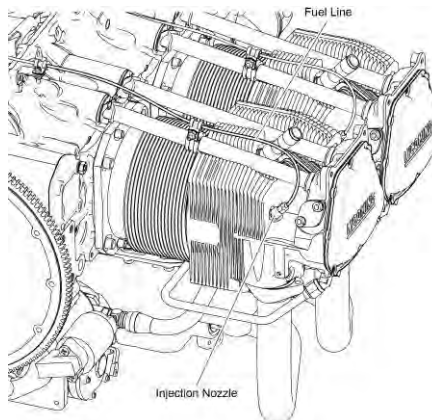

Figure 7
- (1) Disconnect the fuel line from the injection nozzle (Figure 7).
- (2) Remove the injection nozzle from the engine cylinder.
- (1) Lightly lubricate the injection nozzle threads with engine oil mixture.
- (2) Install the injection nozzle (Figure 7) on the engine cylinder.
- (3) Torque the injection nozzle to 60 in.-lbs. (7 Nm). Continue to torque the injection nozzle until the letter or number stamped on the nozzle points downward.
- (4) Connect the fuel line to the injection nozzle.
- (5) During the operational check after all maintenance is complete, look for fuel leaks at the fuel lines and connections during engine operation. Identify and correct the cause of any fuel leak. There must not be any fuel leaks when the engine is returned to service.
- (6) (Optional) Complete the "Injection Nozzle Fuel Flow Check" in this chapter.
- B. Disconnect the fuel line from the injection nozzle (Figure 7).